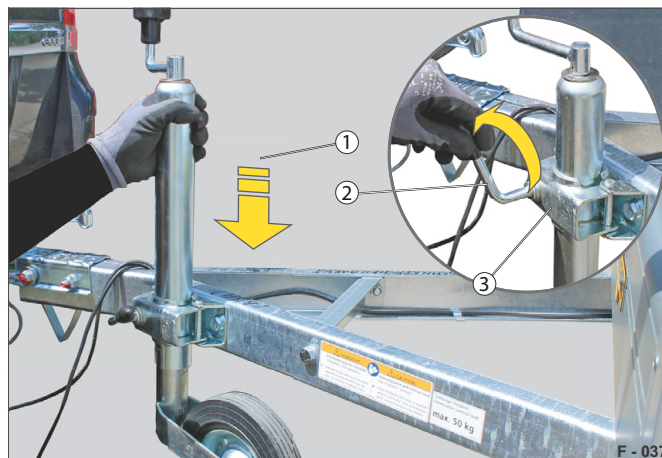

Fig. 11 Lowering jockey wheel
- Unscrew the T-handle (Fig. 11 /2) while holding the cylinder (Fig. 11 /1) tight.
- Lower the cylinder so that the clamp (Fig. 11 /3) can be locked in place.